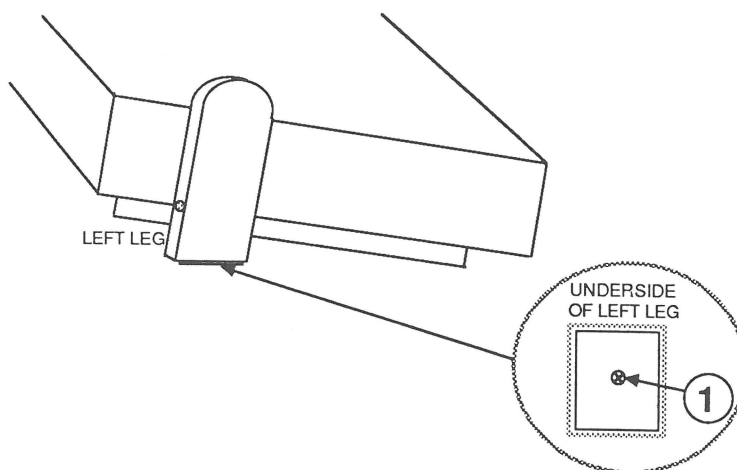

FIGURE 14
3. Remove the Phillips screw at the base of the left leg (Figure 14, #1).
4. Turn the printer upside down and replace the Phillips screw (Figure 14, #1).